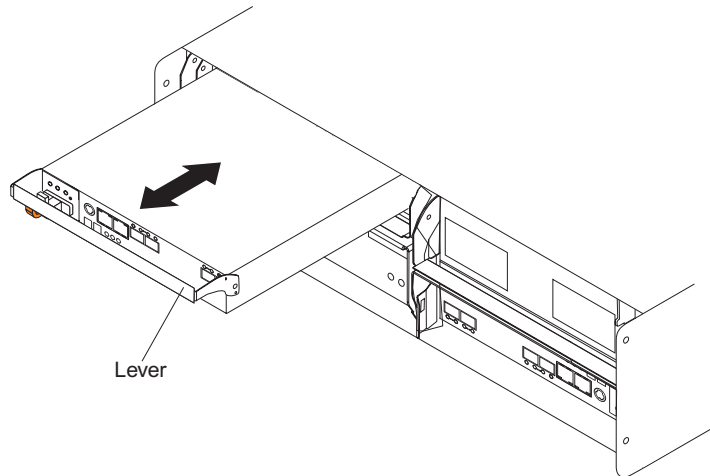

Figure 15. Removing and replacing a controller
2. Slowly pull the lever away from the chassis to remove the controller from the bay, as shown in Figure 15 on page 38.